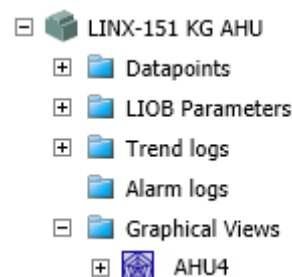

Figure 101: Graphical View in LOYTEC Device
- Graphical view in LOYTEC device: These views are located in the **Graphical Views** folder below a LOYTEC device (see Figure 101). In order to display real-time data, the graphical view communicates directly with the LOYTEC devices using OPC XML-DA. This approach has the advantage that it offers faster response times. However, value changes cannot be logged by the server, because the communication bypasses the LWEB-900 Server.